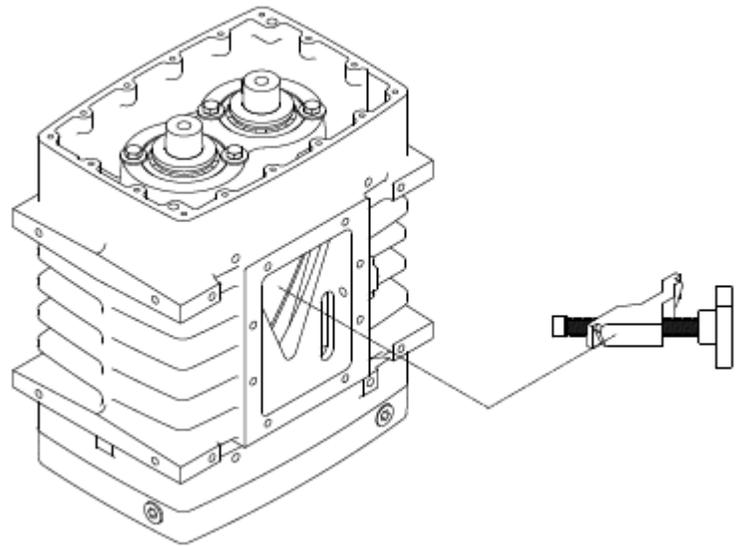

FIGURE 8-6 – INTERLOBE TIMING
41. Apply Loctite 243 to 6 set screws (57) {M6 x 12mm}. Install 3 of these screws into each of the 2 gears. The purpose of these set screws is to keep pressure on the spacer that is between the gear and bearing inner race. Tighten the screws to 25 in-lb. of torque. See FIGURE 8-6